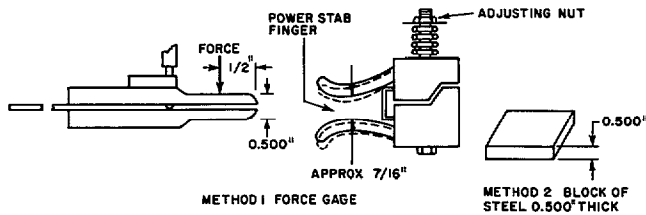

Fig. 95. Adjustment of force on power stabs.
All power stabs should be adjusted by using a force gage (Fig. 95). Each gage is calibrated by applying force one-half inch from the end and obtaining deflection of dial indicator for 45, 50, and 55 pounds. The dial face can be marked for these three loads. Tighten the adjusting nut until the force is  $50 \pm 5$  pounds. The adjusting nut is self-locking.
4. Excessive heat can reduce spring tension on stabs. Therefore, check stab tension per Fig. 95 once each year, or if there is evidence of heating.